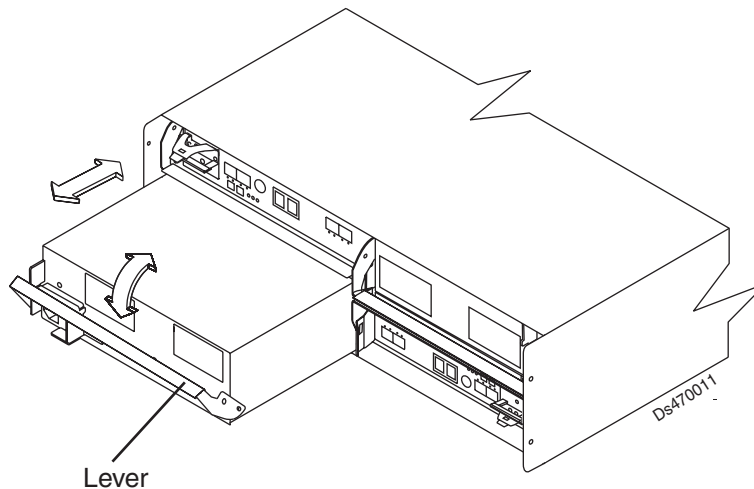

Figure 113. Replacing a power supply and fan unit
Use the following procedure to replace an AC power supply and fan unit. Figure 113 on page 166 illustrates removing and inserting a unit.
11. Slowly pull the lever away from the chassis to remove the power supply and fan unit, as shown in Figure 113 on page 166.
Use the following procedure to replace a DC power supply and fan unit. Figure 113 on page 166 illustrates removing and inserting a unit.